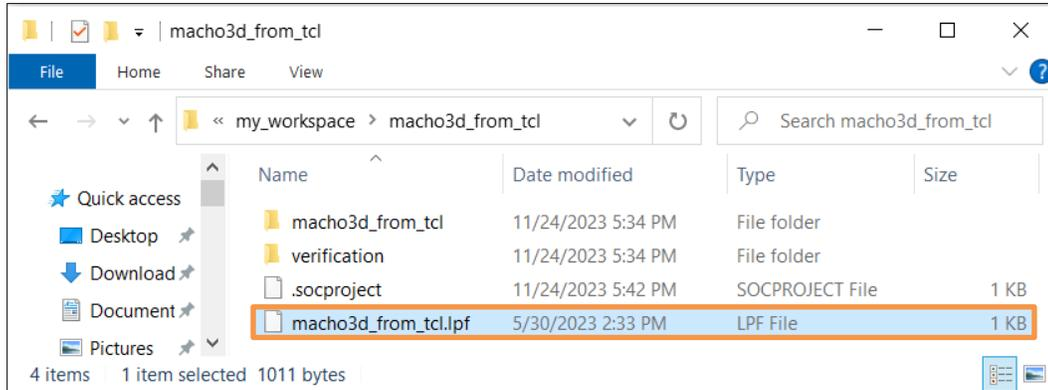

Figure 5.15. Rename Constraint File Copied from Source Project
- e. Rename the file with new project name (Figure 5.15).